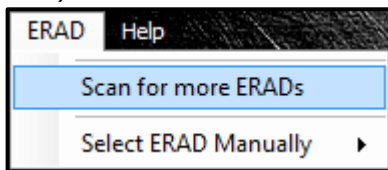

Figure 8.2-5: Scan for More E-RADs
5. Select "Scan for more ERADs" from the ERAD menu (Figure 8.2-5) or;